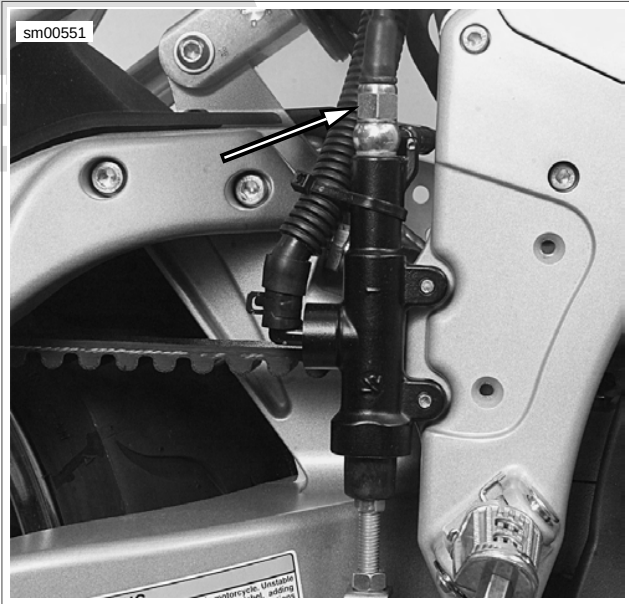

Figure 2-60. Rear Brake Light Switch/Banjo Bolt
- 8. Remove banjo bolt (3) from rear caliper. Discard copper washers.
- 9. See Figure 2-60. Remove brake light switch/banjo bolt from rear master cylinder. Discard copper washer.
- 1. See Figure 2-60. Install brake light switch/banjo bolt with new copper washers to the master cylinder. Tighten to 16-20 ft-lbs (22-27 Nm).
7. See Figure 2-60. Remove p-clamp (2) securing brake line (1) to the left side of swingarm.
8. Remove banjo bolt (3) from rear caliper. Discard copper washers.
9. See Figure 2-60. Remove brake line switch/banjo bolt from rear master cylinder. Discard copper washer.
1. See Figure 2-60. Install brake light switch/banjo bolt with **new** copper washers to the master cylinder. Tighten to 16-20 ft-lbs (22-27 Nm).
4. See Figure 2-60. Connect brake line switch connector underneath seat.